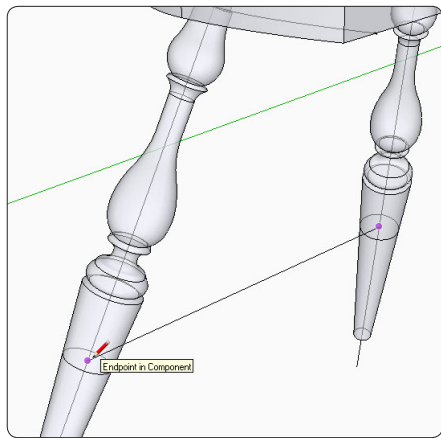

Figure 39. Draw a line between the guide points in the legs. Then select the Centerline component, and draw over this line to make it part of the component.
Step 11 Set the Face View to X-Ray. Draw a line between the two guide points in the legs, as shown in Figure 39. This line needs to become a part of the Centerline component created in Step 8. Right-click on the front leg and select Hide from the pop-up menu. This lets you access the Centerline component. Right-click on the centerline for the front leg and select Edit Component from the pop-up menu. Use the Line Tool to draw over the existing line between the two guide points. Unhide the leg.